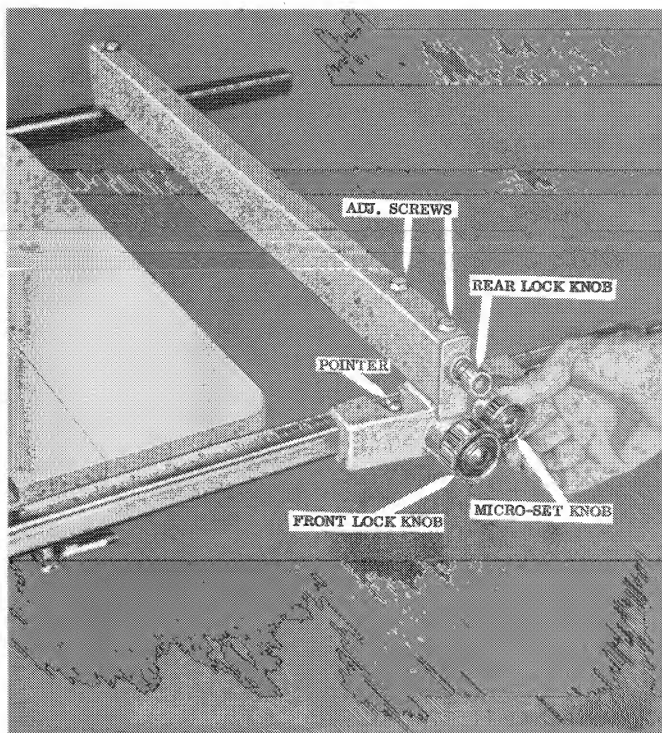

FIG. 2
Your 34-600 Delta Saw is shipped complete in two packages. One large package contains the Saw and one long package marked SP-34-600-C which contains all of the parts shown in Figure 2.
The rip fence can be used to the right or left of the saw blade. It can be moved rapidly to the approximate position and then accurately set to the exact position by turning the Micro Set Knob. See Fig. 2. When the desired position is obtained, tighten front and rear Lock Knobs. See Fig. 2.
1. Loosen both Adjusting Screws. See Fig. 2 and Rear Lock Knob.
3. Rip a piece of material and then accurately measure the width. Check the pointer on the front of the rip fence. See Fig. 2. If it is not pointing to the dimension, merely loosen screw and adjust.